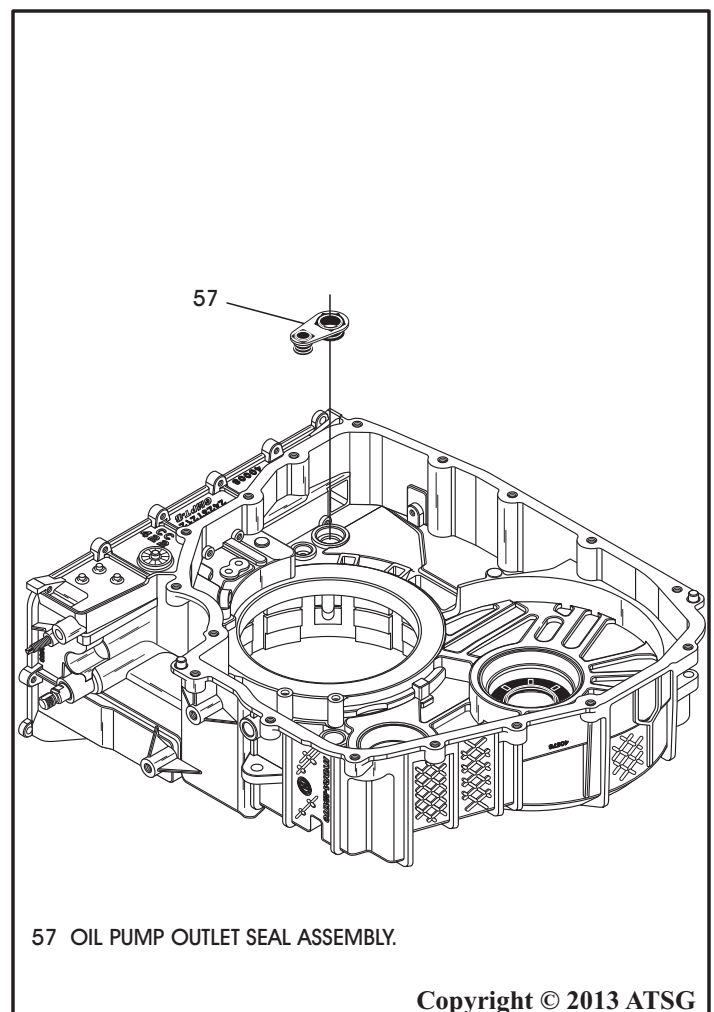

Figure 187
5. Install new oil pump outlet seal into the case, as shown in Figure 187.